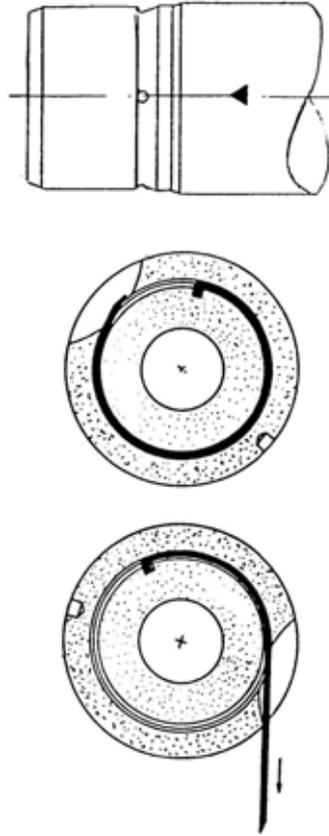

Figure 22 Locking Wire Removal
- d. Withdraw the piston rod (6) with the top nut (4) and piston (1).
- e. The piston is held in place using a locking wire (2). This is forced out when the piston is rotated on the piston rod. Locate the locking hole by observing the etched marking on the piston rod (Figure 22). Rotate the piston until the recess in the piston indexes with the mark on the piston rod. Push the hooked part of the locking wire into the locking hole (the hook may have already come loose from the hole). Rotate until the pointed end of the locking wire can be lifted out of the recess using a screwdriver. Continue to rotate until the locking wire is completely free.
- g. Remove the top nut (4) from the piston rod (6).
- h. Remove the locking ring (5).